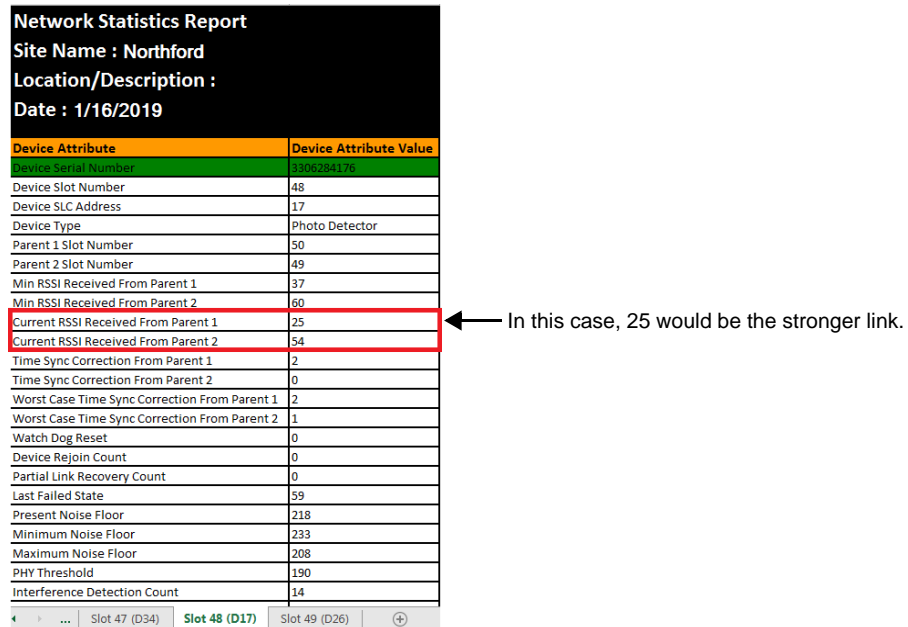

Figure 2.22 Review Network Statistics
**NOTE:** Signal strength is represented using negative numbers. So, 30 is 20 dB stronger than 50. Refer for Figure 2.22 for an example.